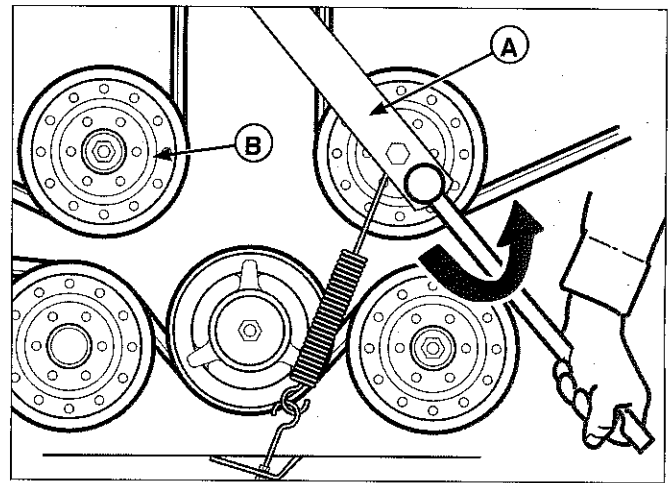

Figure 51. Mower PTO Belt (61" Mower Deck)
2. **For 61" deck:** Using a 1/2" breaker bar, place the square end in the square hole located in the end of the idler arm (A, Figure 51). Carefully rotate the breaker bar **COUNTER-CLOCKWISE**, which will relieve the tension on the belt exerted from the idler arm.
5. **For 61" deck:** Install the drive belt on the PTO pulley, the spindle pulleys and all idler pulleys except the stationary pulley (B, Figure 51). Carefully rotate the breaker bar **COUNTER-CLOCKWISE** and install the belt on the stationary idler pulley (B). Carefully release the tension on the breaker bar.